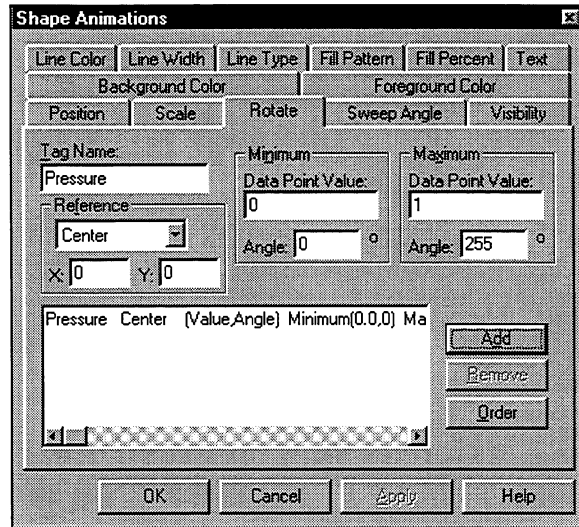

Figure 4-28. Configuring a Rotate Animation
13. Click Add to add the animation to the list box, as shown in Figure 4-28.